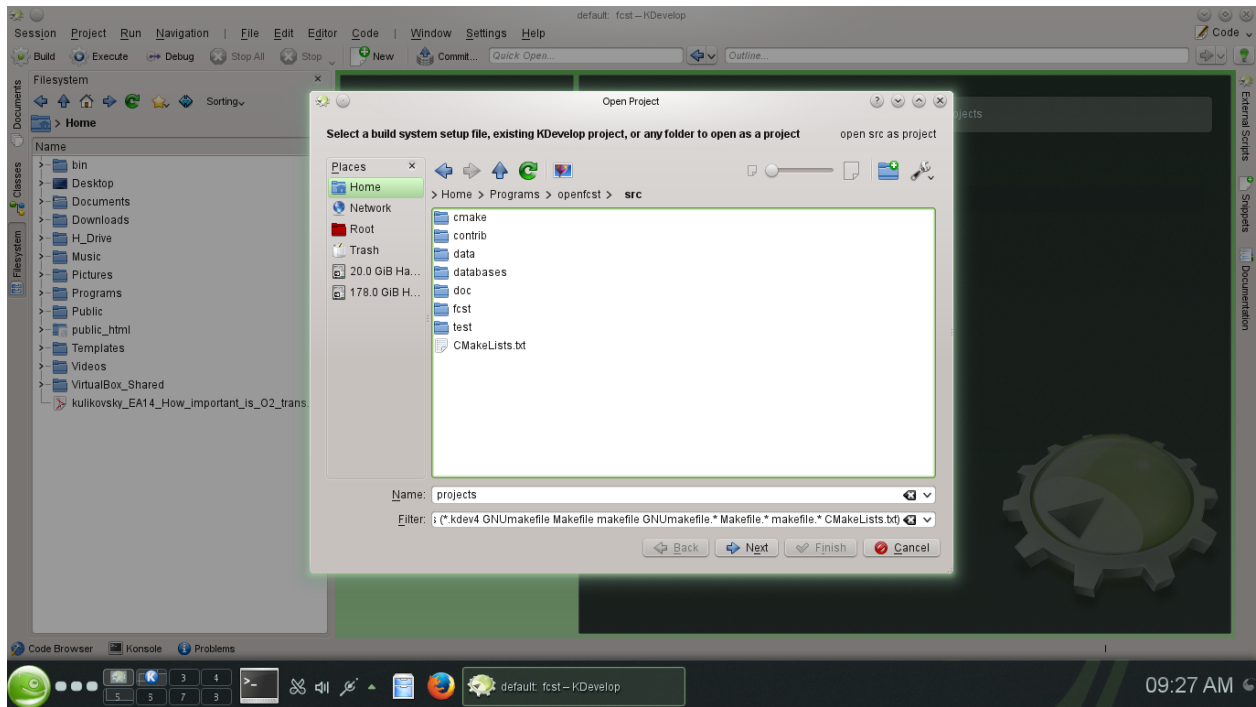

Figure 8.1: Initial window in KDevelop to import a CMake project.
- Go to **Project > Open/Import Project...** Go to the OpenFCST folder, enter the `src` folder and then, select the `CMakeLists.txt` file in `openfcst/src` (see Figure 8.1). In the next window, enter the name of the project, e.g. OpenFCST, and select **CMake Project Manager**. At this point, the project should either appear or prompt another window asking for the Build folder. If the latter is the case, point KDevelop to the Build folder in the main folder of OpenFCST. Then, the project import is complete and the project menu will appear on the left hand side.